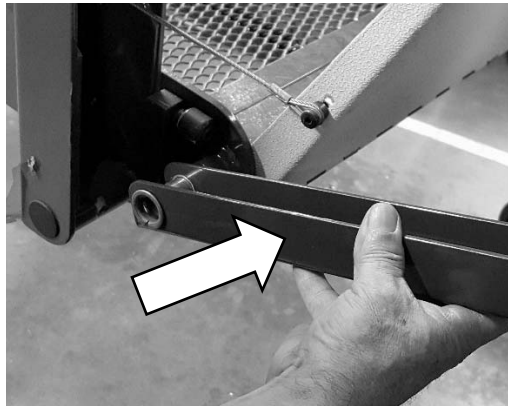

Figure 29. Lower Knuckle Link Arm
5. Refer to **Figure 29**. Remove Lower Knuckle Link Arm from platform pivot pin.